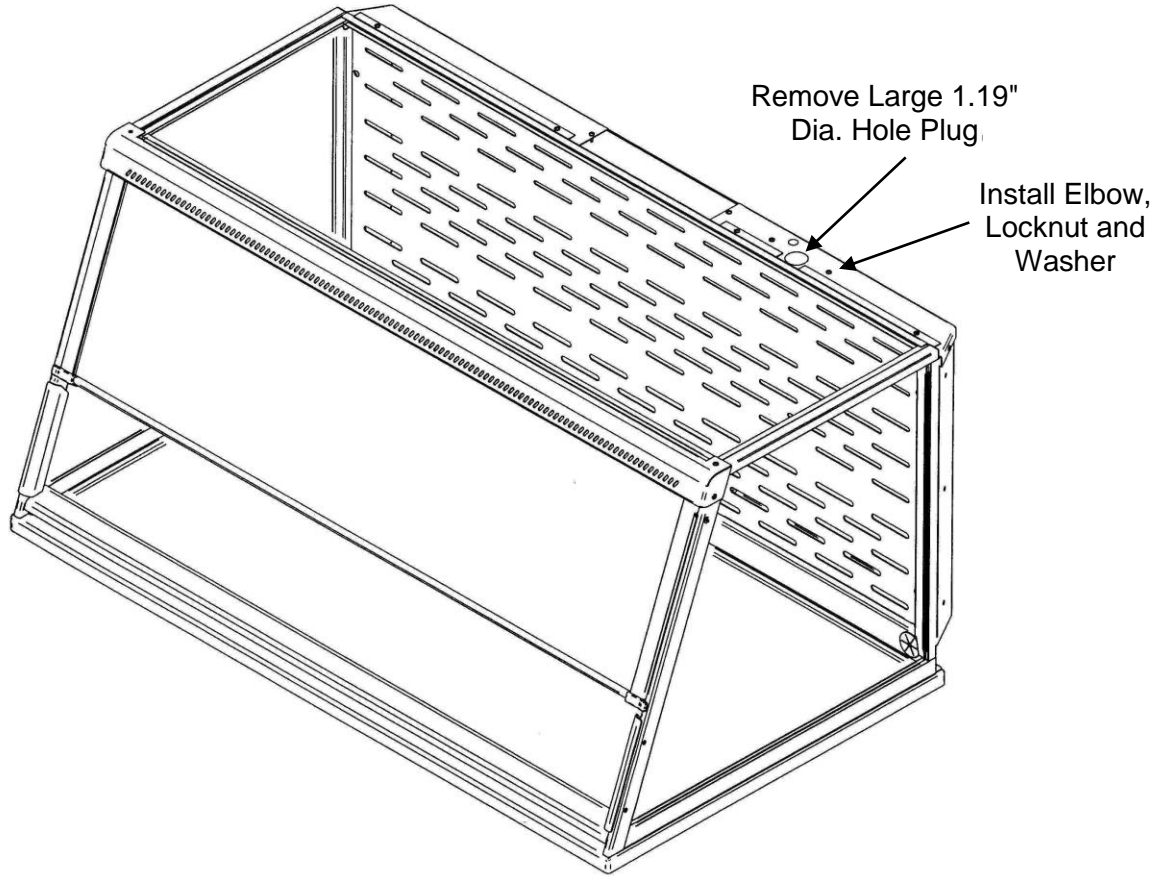
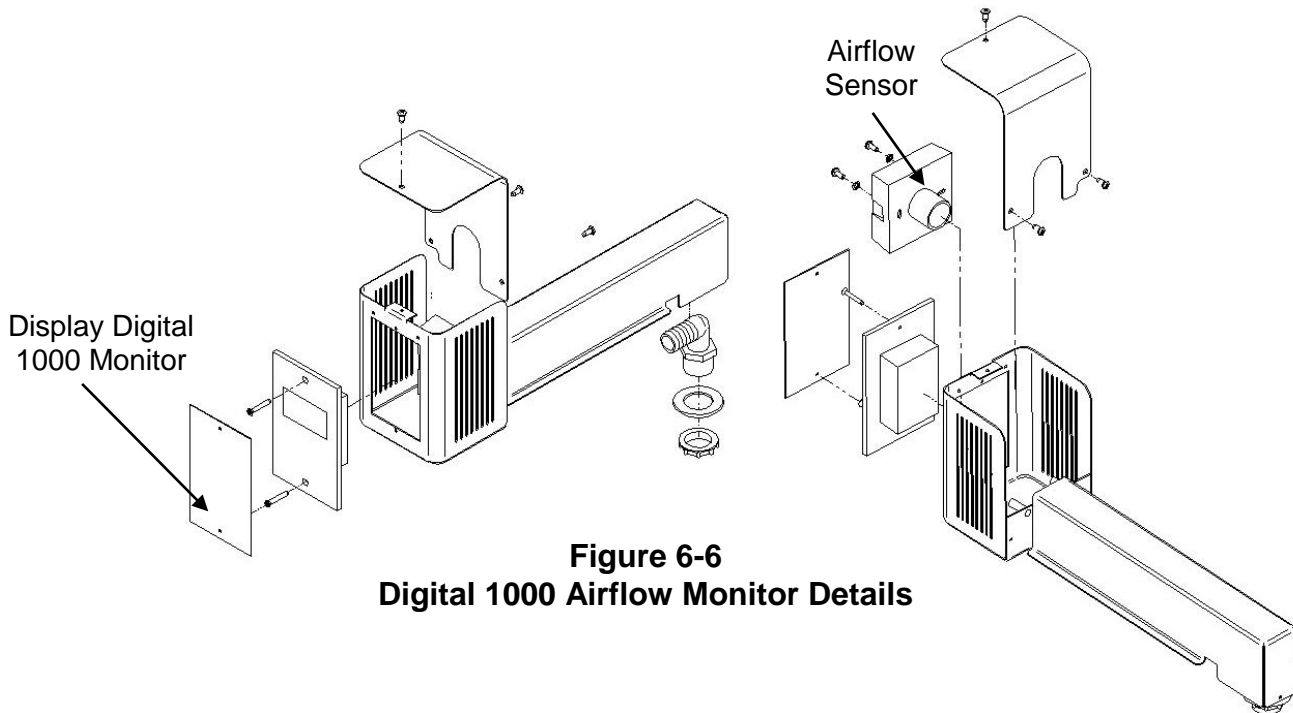

Figure 6-5
Figure 6-6
2. First remove the large 1.19" dia. gray hole plug. See Figure 6-5. See Figure 6-6 only to reference internal assembly of the airflow monitor. Locate the elbow, locknut, and washer and install it in the 1.19" dia. hole per Figure 6-5 and Figure 6-6. The enclosure baffle pivots down to install the elbow, washer and locknut.